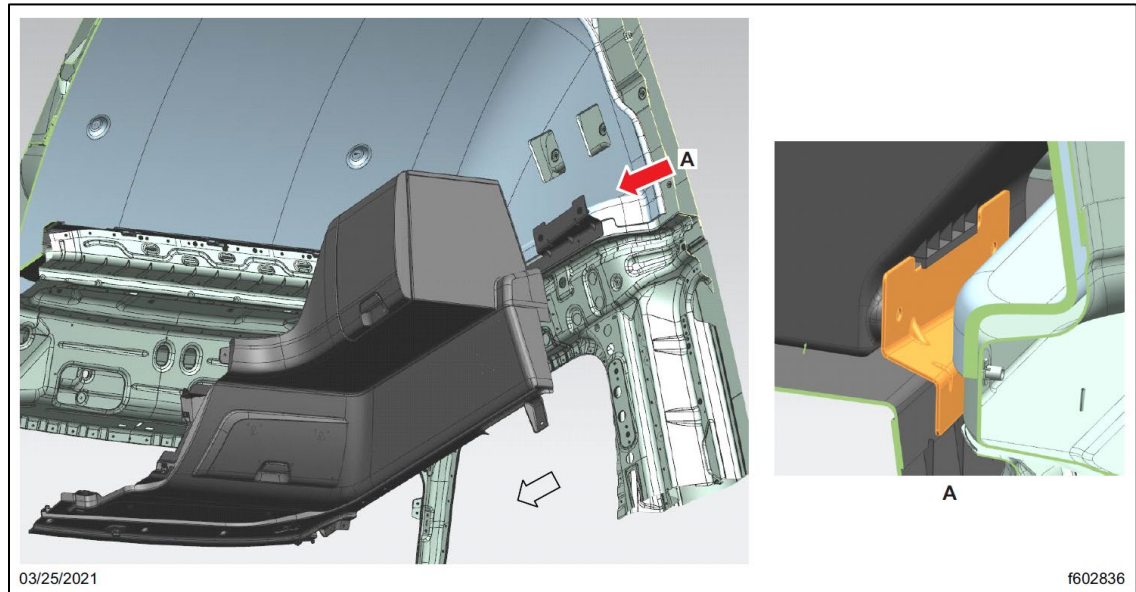

Fig. 55, RH Overhead Storage Assembly Hung on the Sidewall Bracket
12.3. Hang the RH overhead storage assembly on the sidewall bracket as shown in Fig. 55.